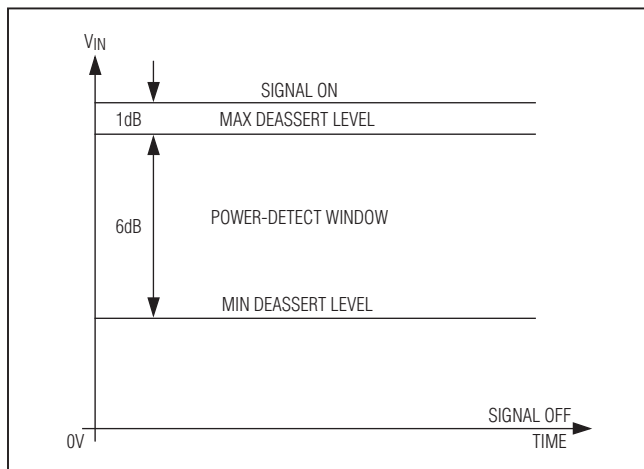

Figure 2. LOS Deassert Threshold Set 1dB Below the Minimum by Receiver Sensitivity (for Selected  $R_{TH}$ )
**Note 7:** The signal at the input is switched between two amplitudes, Signal\_ON and Signal\_OFF, as shown in Figure 2.